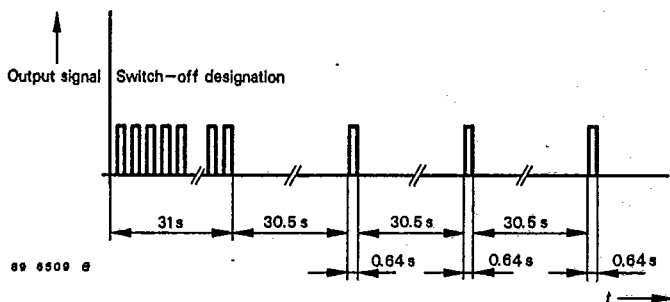

Fig. 7: Switch-off designation
Output signal is generated for a duration of 31 s, a rectangular pulse of 640 ms pulse- and interruption (pause) time. Afterwards it goes to the sequence as mentioned under a) (Fig. 7).
b) Switch-off designation see U 2605 B, Fig. 7:
- b) Switch-off designation, see U 2606 B, Fig. 7